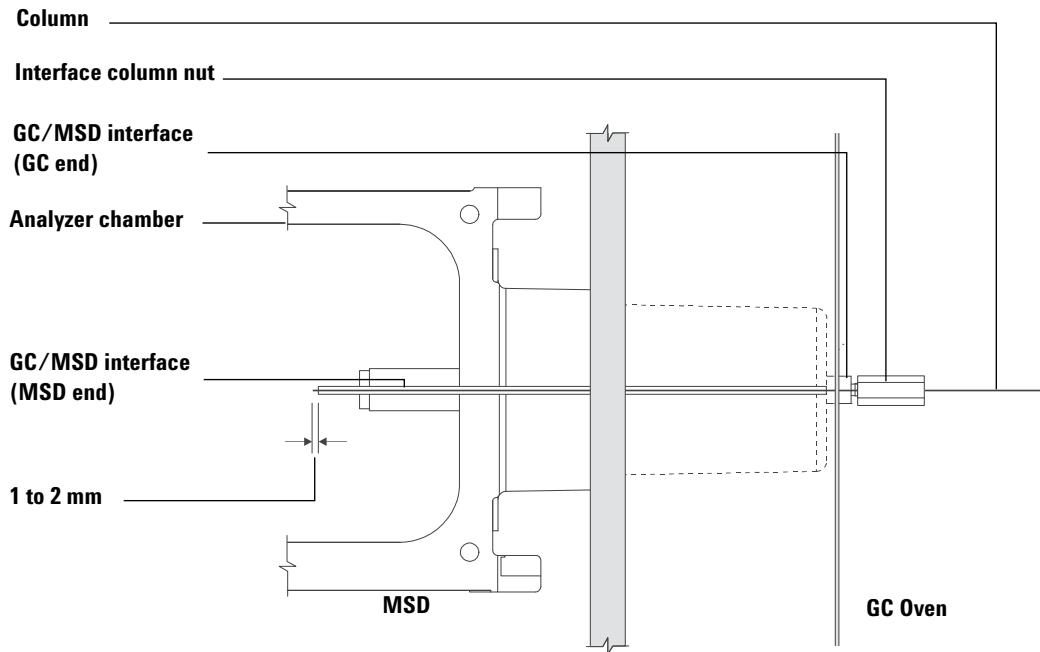

Figure 11 MSD - GC column connection
- 10 Adjust the column so that it protrudes 1 to 2 mm into the analyzer chamber past the end of the GC/MSD interface, and hand tighten the nut. See Figure 11.